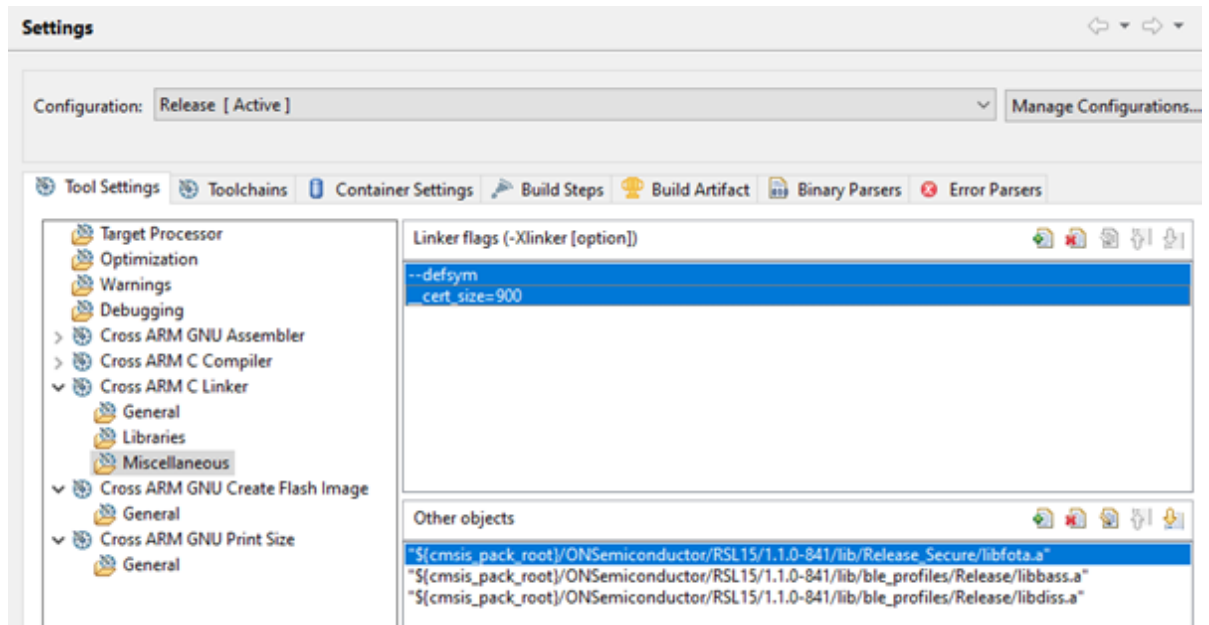

Figure 21. Updating Secure Configuration
- b. Change the path of *libfota.a* to use the Secure FOTA library `${cmsis_pack_root}/ONSemiconductor/<device>/<version>/lib/Release_Secure/libfota.a` (see the "Updating Secure Configuration" figure (Figure 21)).